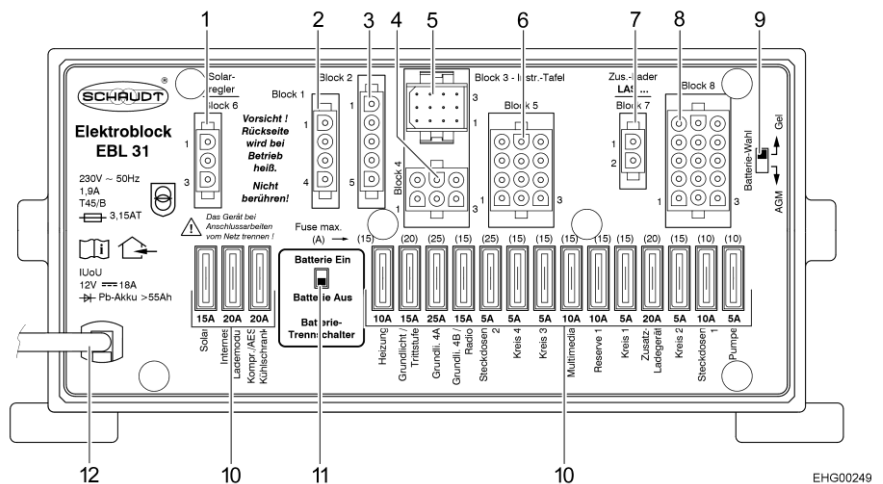

Fig. 114 Transformer/rectifier (EBL 31)
- ▷ To disconnect **all** electrical 12 V appliances from the power supply and prevent discharge of the living area battery, set the battery cut-off switch (Fig. 114,11) to "Batterie Aus" (battery Off) on the transformer/rectifier.
- ▷ Appliances such as the transformer/rectifier itself, the panel, the heater, the solar charge regulator (if present) and other devices consume a small amount of standby current and thus discharge the living area battery over time. Therefore, you switch the battery cut-off switch (Fig. 114,11) on the transformer/rectifier to "Batterie Aus" (battery Off) when the vehicle is not used for a long period of time. The solar charge regulator remains in operation. To deactivate the solar charge regulator, the corresponding fuse (Fig. 114,10 "Solar") must be removed.